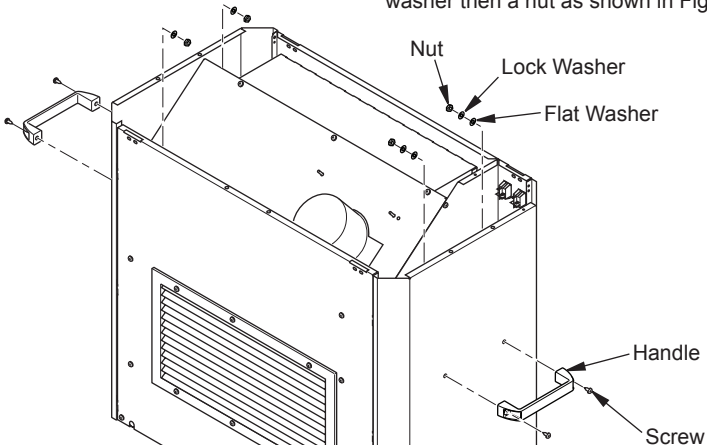

Figure 3 - Attaching Handles
2. Attach each handle to side panels with 2 screws, 2 nuts, 2 flat washers and 2 lock washers. Insert screw from outside of heater and through handle. From inside of heater, attach a flat washer, then a lock washer then a nut as shown in Figure 3.